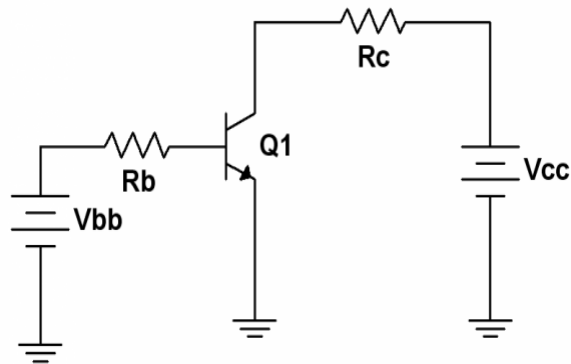

Figure 3.1
2. Consider the circuit of Figure 3.1 with  $V_{bb} = 11\text{V}$ ,  $V_{cc} = 15\text{V}$ ,  $R_b = 330\text{ k}$  and  $R_c = 1.2\text{ k}$ . Assume  $V_{BE} = .7\text{ volts}$ . Further, assume that beta is 150 (a typical value for this device in this application). Calculate the expected values of  $I_B$ ,  $I_C$  and  $I_E$ , and record them in the “Theory” columns of Table 3.1. Note that the theoretical values will be the same for all three transistors.
4. Build the circuit of Figure 3.1 with  $V_{bb} = 11V$ ,  $V_{cc} = 15V$ ,  $R_b = 330\text{ k}$  and  $R_c = 1.2\text{ k}$ . Measure and record the base, collector and emitter currents, and record them in the first row of Table 3.1. Determine the deviations between the theoretical and experimental currents, and record these in Table 3.1.
8. One way of improving the circuit of Figure 3.1 is to redesign it so that a single power supply may be used. As noted previously, the base current is largely dependent on the value of  $V_{BB}$  and  $R_B$ . If the supply is changed, the resistance can be changed by a similar factor in order to keep the base current constant. This is just an application of Ohm's law. Based on this, determine a new value for  $R_B$  that will produce the original  $I_B$  if  $V_{BB}$  is increased to the  $V_{CC}$  value (i.e., a single power supply is used). Record this value in Table 3.3.
5. In the circuit of Figure 3.1, what must  $R_B$  be set to if  $V_{BB} = 5V$  and the desired base current is  $10 \mu A$ ?